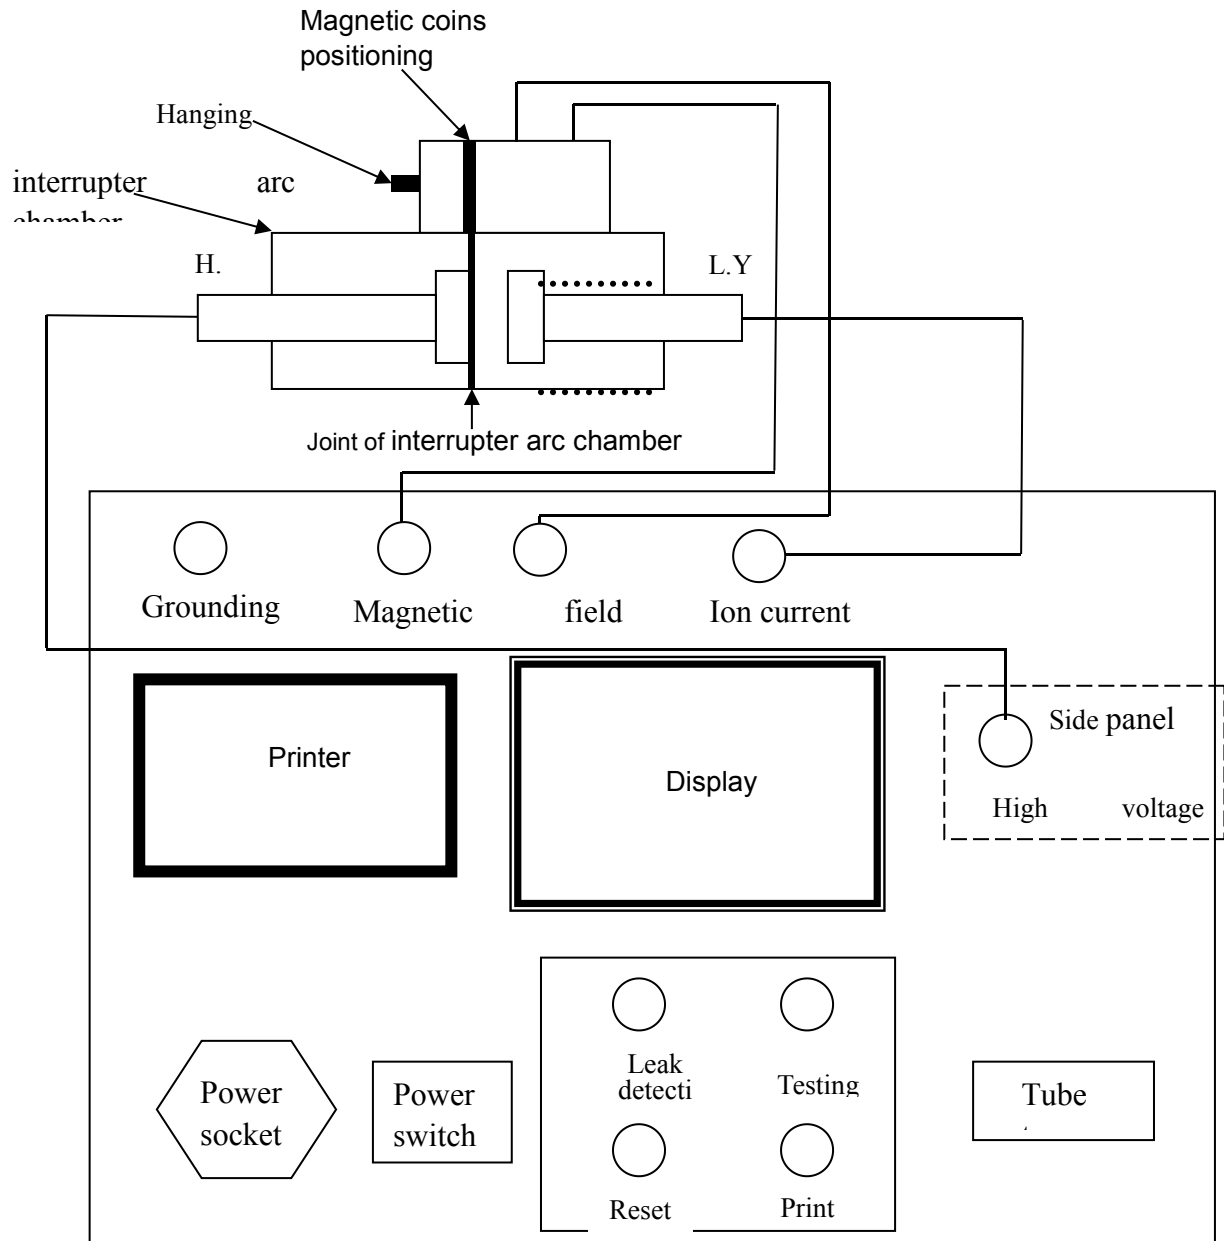

Figure 2.HZ-KG7 Vacuum Tester for vacuum switch
Figure 2 shows the operation panel of the HZ-KG7 Vacuum Switch Vacuum Tester, leak detection button is used to determine the preliminary vacuum of vacuum tube, measuring button is used to exert high electric voltage, strong electromagnetic field on the vacuum tube, and measure quantitative the vacuum of vacuum tube. There is a high-voltage output terminal in the left of instrument back, which should connect with the contact of vacuum tube; Ion current input terminal must connect with another contact on the vacuum tube, two output terminal of magnetic field voltage must be connect with two wiring terminal of excitation coils; ground terminal for protective grounding of equipment enclosures; DIP switch is used to enter the tube type of interrupter arc chamber; the tube type of interrupter arc chamber can be ascertained by tube's diameter and type of excitation coils.
(1) Pull and open two contacts pole of interrupter arc chamber for certain distance, and clean the surface; As shown in Figure 2, hanging the excitation coil and wiring all, and enter tube type of interrupter arc chamber through the DIP switch.
(2) Check the wiring is correct, turn on the power switch. Press the reset button, ensure that the equipment is in the initial state
(3) Press the leak detection button, detecting leak of vacuum tube